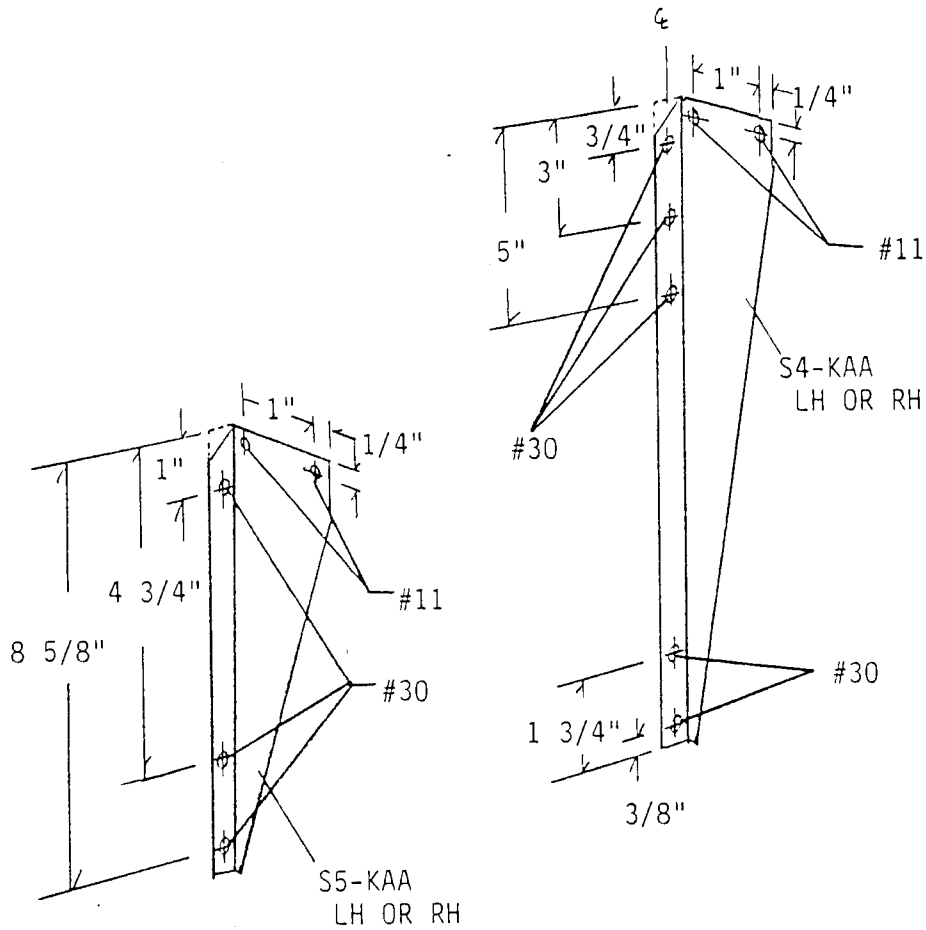

FIGURE 011-014
14. Set former "A" on top of the longerons, mark and drill through #11 and rivet with a 3/16" stainless steel pop rivet (12SSPR). Line up the former A on the lower marks. Check for even overhang onto each longeron. Check the width at the former. It should measure 28 3/4" from truss side gussets at the fwd. edge of the former "A" flange. IMPORTANT: The width measurement is critical to skin fit. Adjust position of formers to maintain. Locate a #11 hole in the flange against the longeron 1/4" from each edge. Rivet with a 12SSPR on each side. Measure back 1/2" from this rivet and locate a second one on each side. Attach the LH and RH keel attach angles as per Figure 011-014. Profile the tops. Repeat this same procedure for former "B" except use 15 5/8" as the width measurement. PLEASE NOTE: Both former A and B width measurements are to outside to outside of the side gusset plates.